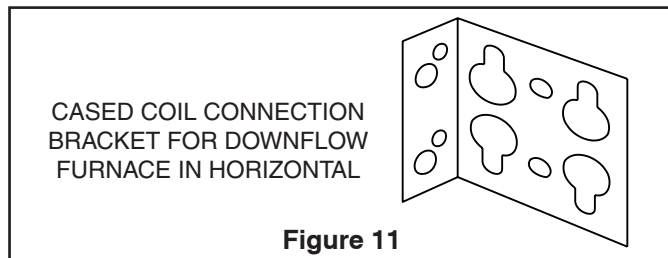

Figure 11
- There are three brackets included with the noncondensing downflow furnace which are used to connect the furnace and coil together. See Figure 11.